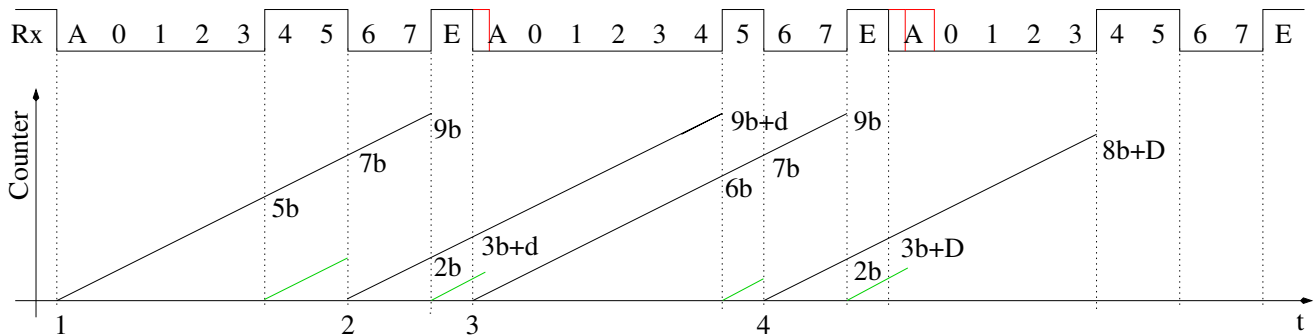

Figure 3.8. Possibel timer measurements for the STK_GET_SYNC sequence
If you specify a baud rate below 100Baud for generating the bootloader code, the program will be prepared to detect the baud rate from the first received character. At the begin if the transmission with the STK500 protocol the computer send a command `STK_GET_SYNC` (0x30) followed by the control character `CRC_EOP` (0x20). For the serial transmission protocol the High level (1) is defined as the idle state. The begin of a transmission is started by a start bit with Low level (0). Directly after the end of the start bit the first data bit is send beginning with the low order bit. After the last of the agreed count of bits (8) is transmitted, the transmission is finished with one or more Stop bits at High level (1). The level of every bit is hold exactly the agreed baud time. The time between the end of the last Stop bit and the begin of the next Start bit is unspecified. The figure 3.8 shows the expected results for all possible time measurement. At the time axis "t" four possible start positions are marked for a complete time measurement of the assumed character. The counter is started in each case of a detected 1-0 slope. The right start position for the `STK_GET_SYNC` character is marked with "1". The marks "2", "3" and "4" show the situation for three possible wrong Start bit detections. For the mark "2" and "4" a 1-0 slope of data bits is detected as Start bit in a wrong way. For the mark '3' is a Start bit correctly detected, but for the wrong character (`CRC_EOP`). The wrong detections are allways possible, if the bootloader is started not before the transmission was running. The expected counter values are marked at the counter level graph for all four start positions in figure 3.8. The "b" means the counter reading for one bit transmission time (baud time), the "d" stand for a possible time delay between the end of the Stop bit transfer and the start of a new Start bit. The "D" represents a expected long time delay to the begin of the next message. The transmit sequence of the message has reached it's end and the computer wait for an answer of the AVR. In the "Rx"-row the data bits are labeled with "0" (least significant bit) to "7" (highest significant bit). The Start bit has the label 'A' and a Stop bit has the label 'E'. The first byte is the coding of the `STK_GET_SYNC` character and the second byte is the coding of the control character `CRC_EOP`.